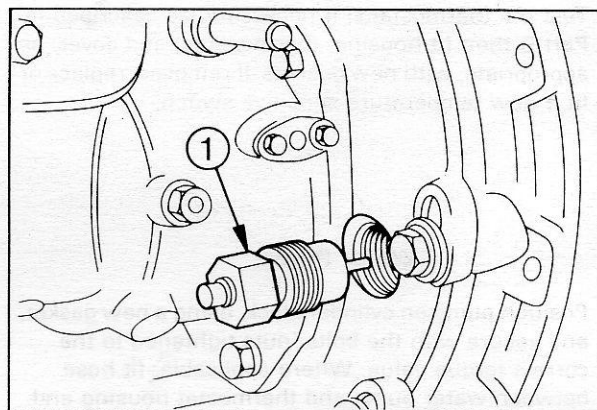

Fig. 58 - Injection Pump Timing - Class "A" and Combine Harvester Governed Pumps
89. Remove plug from injection pump mounting flange. Rotate the pump drive gear until the hole in the gear is centered in the hole in the flange, then screw the timing tool (10964) into position (Fig. 58). Rotate the drive gear slightly, as necessary, to engage the timing tool plunger in the hole.